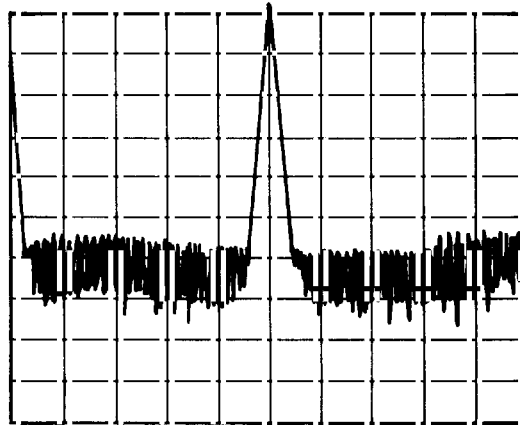

Figure 5-21. YO Loop Gain at A48J1
13. On the Sweep Generator press **[CW]** then adjust the rotary knob to set a frequency that will produce a center frequency readout on the Spectrum Analyzer of 25.0 MHz. (See Figure 5-21.) Turn off **[SIGNAL TRACK]** on Spectrum Analyzer.